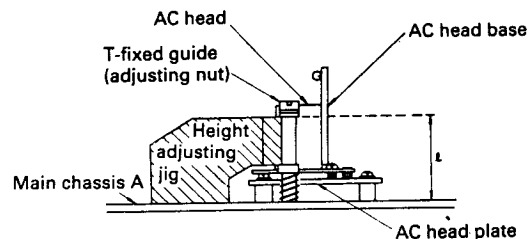

Figure 22.
- 1) Install the guide height adjusting jig on main chassis A (see Figure 22).